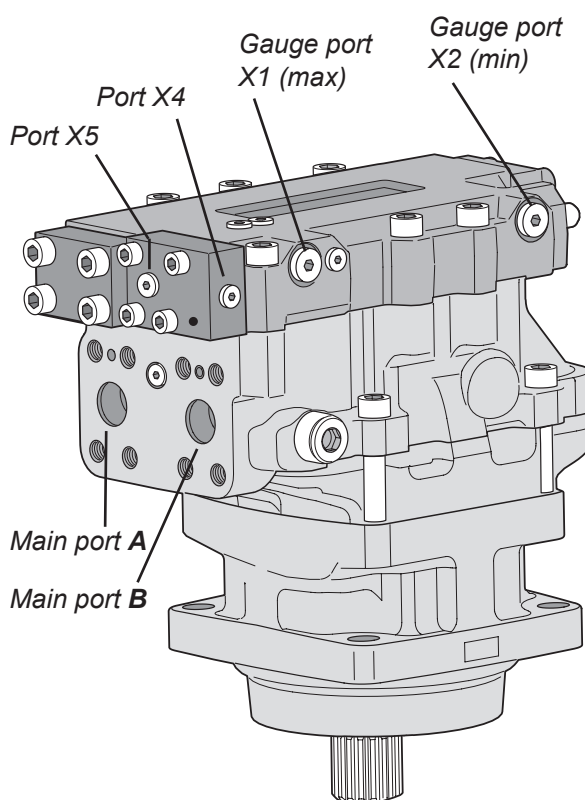

fig. 1
2. Install 0 - 600 bar (0 - 8500 psi) gauges in port X1 and X5; refer to fig. 1.